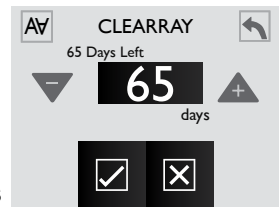

Figure 12.6c
The CLEARRAY UV bulb has a life expectancy of 1 year. A timer activates when power is applied and begins a countdown starting at 365 days. Once the timer expires, an error message will appear on the display, the UV bulb must be replaced and the timer needs to be reset. Tap **CLEARRAY 65** (Figure 12.6c) to enter the Programming Menu.
1. From the “Water Care” Menu you can to set the CLEARRAY UV bulb timer, Figure 12.6c.